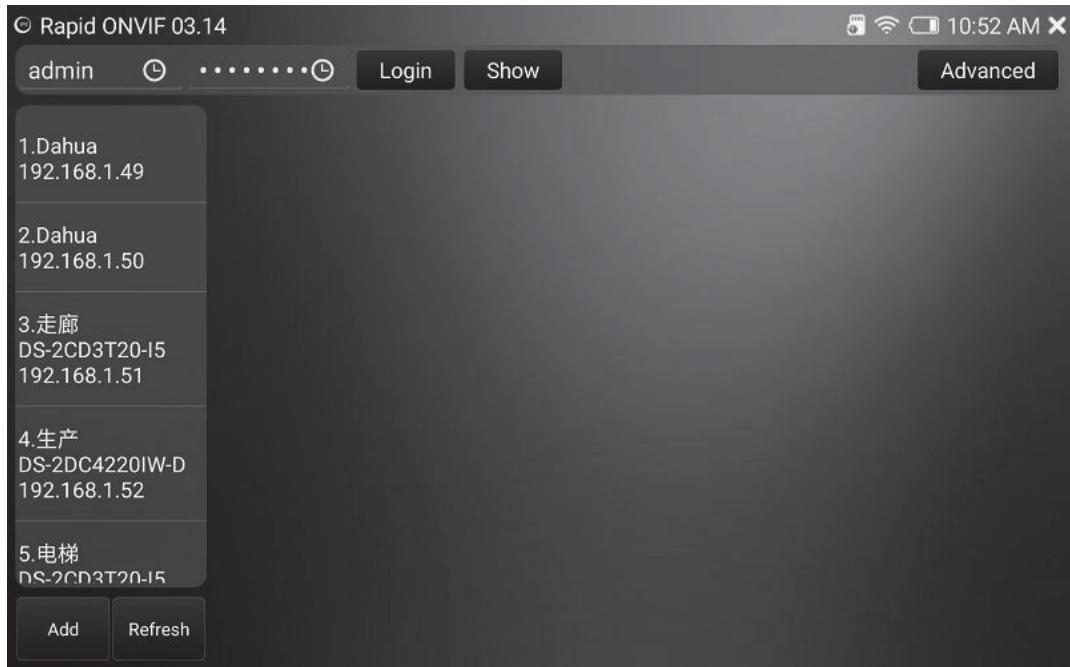

Figure 13
1) Input the username and password in the second column, touch the login button, by default, username and password are both ‘admin’, if it prompts error username or password, touch logouttoeditthevalue. By default, it logs in automatically, you can disable it in advanced setting menu. Click the small icon on the right of username and password to view or delete the history username and password records, as shown in Figure13.